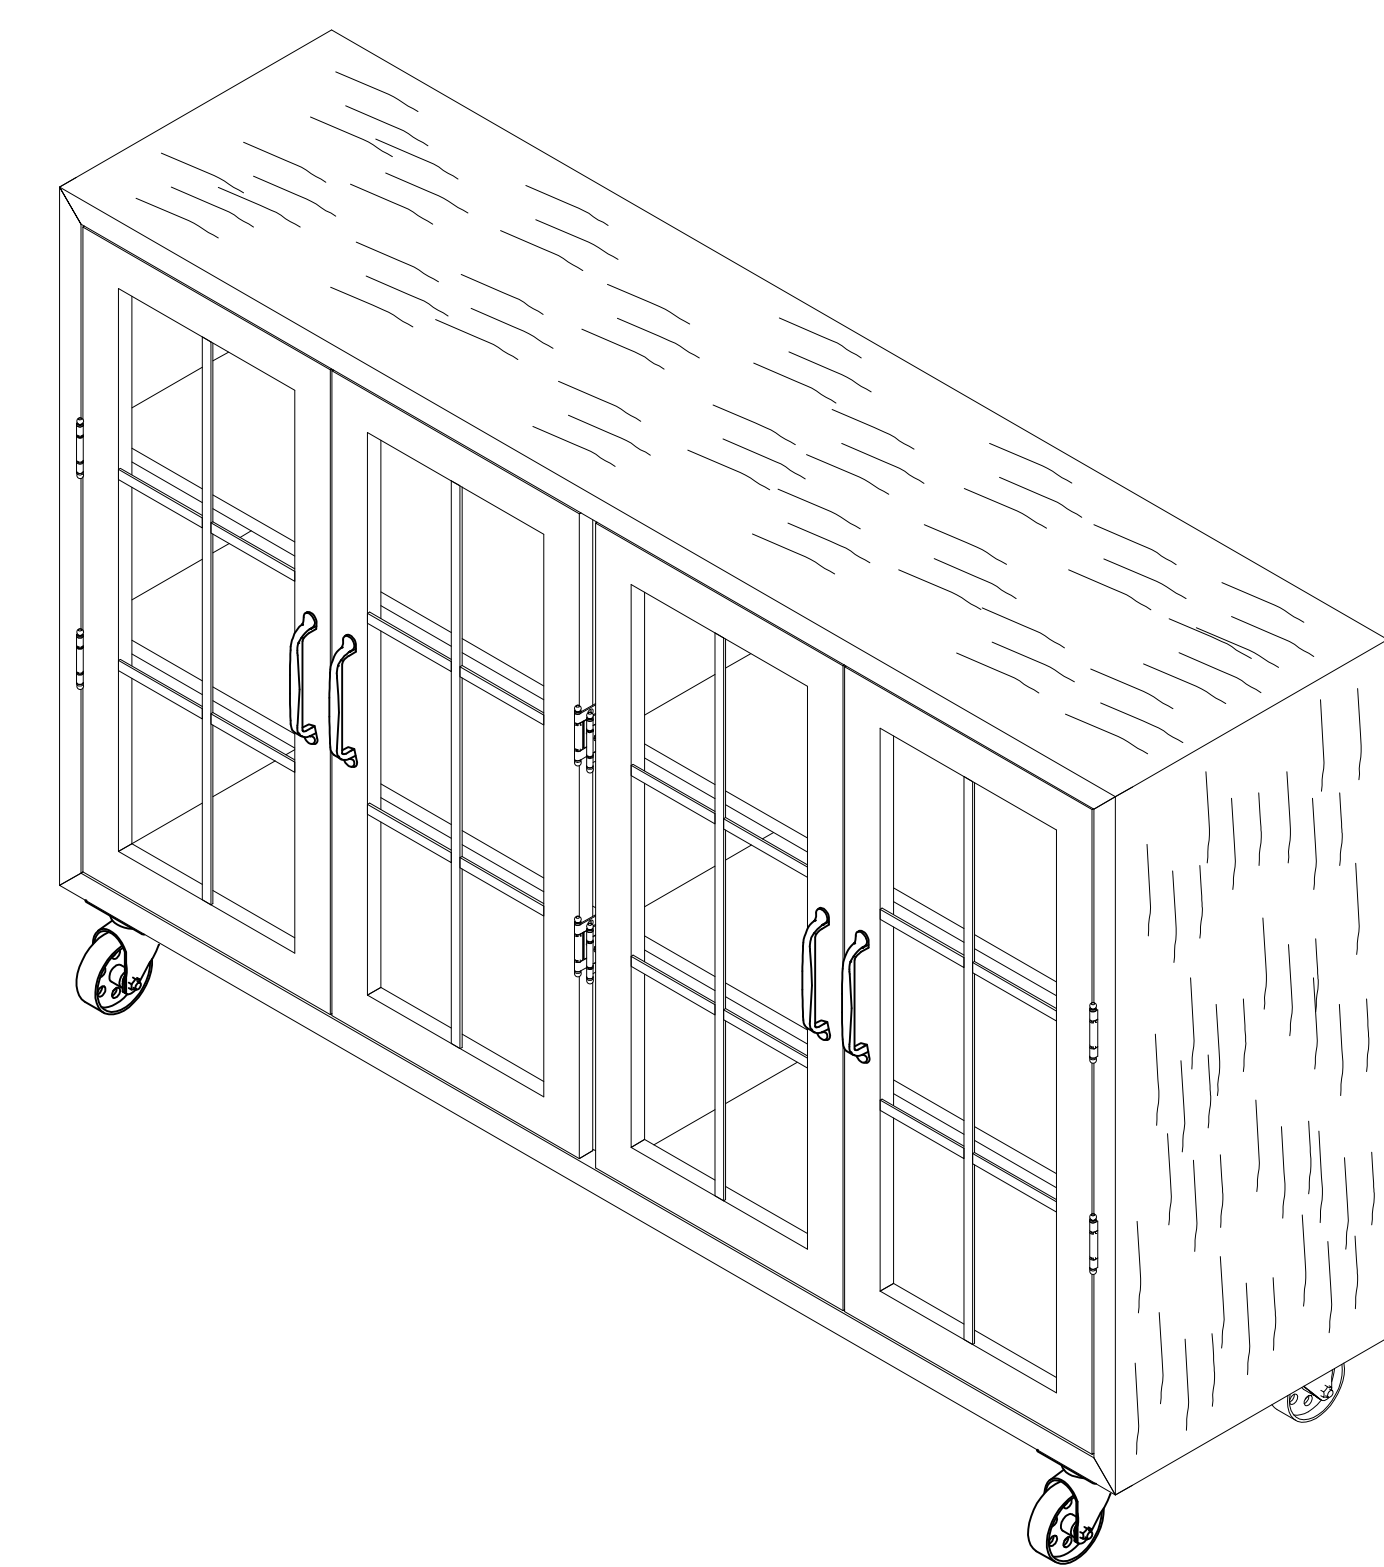

Fig 1
2. Attach the caster (E) into the bottom bolt hole of base unit using bolt (A), lock washers (B) and flat washers (C), tighten with the Allen Wrench (D) as shown Fig 1.